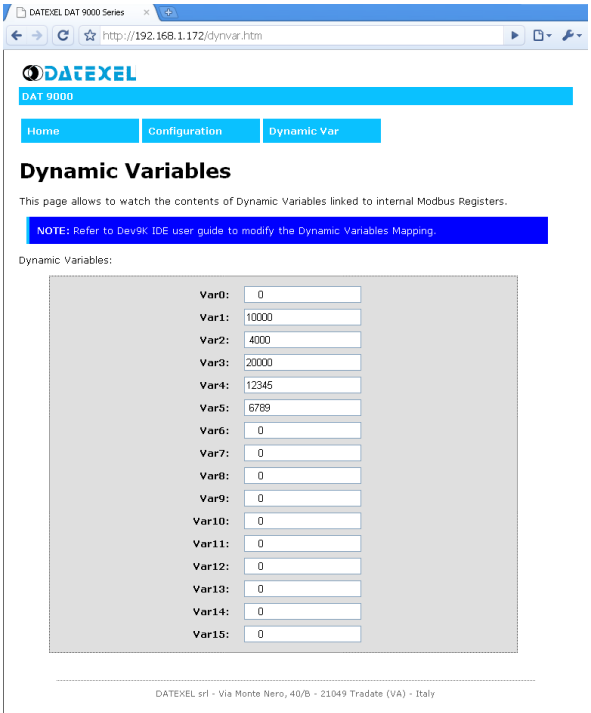

Fig. 6.13
- **Dynamic Var** (Fig.6.13) (<http://192.168.1.172/dynvar.htm>): In this page are visualized the values of the Internal Registers from the %R26 up to the %R41. To update the value of the Registers it is necessary to use the F5 key.